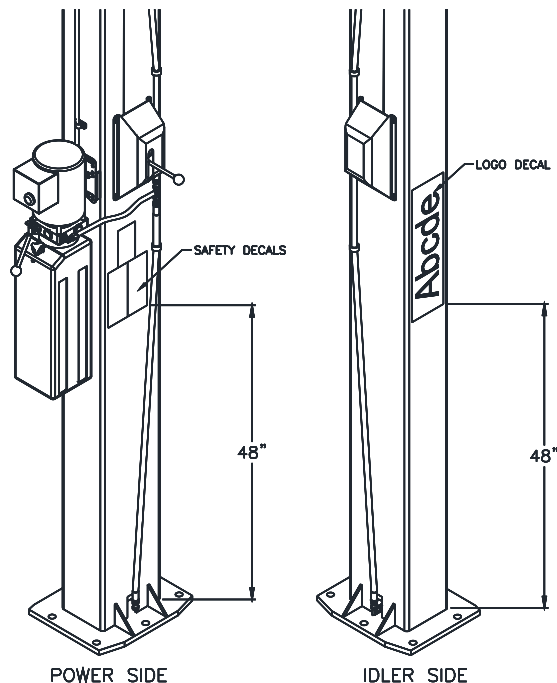

Fig. 11 – Safety & Logo Decal Placement
- 44) Apply the Safety Decals (Pg. 3) 48" above the base plate on the power column and the Logo Decal 48" above the base plate on the idler column. **Fig. 11.**